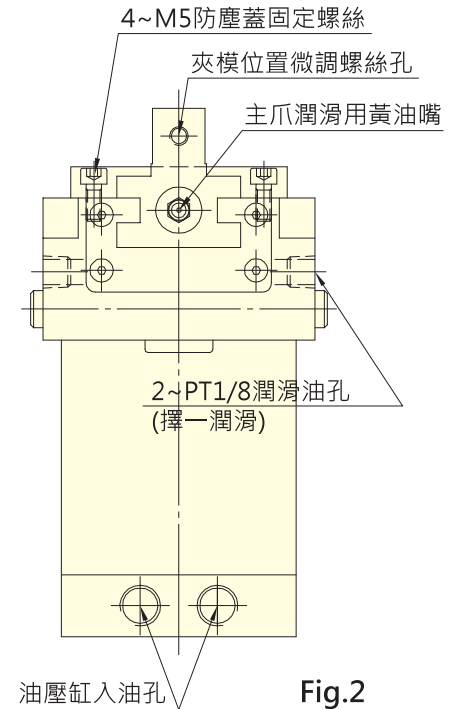
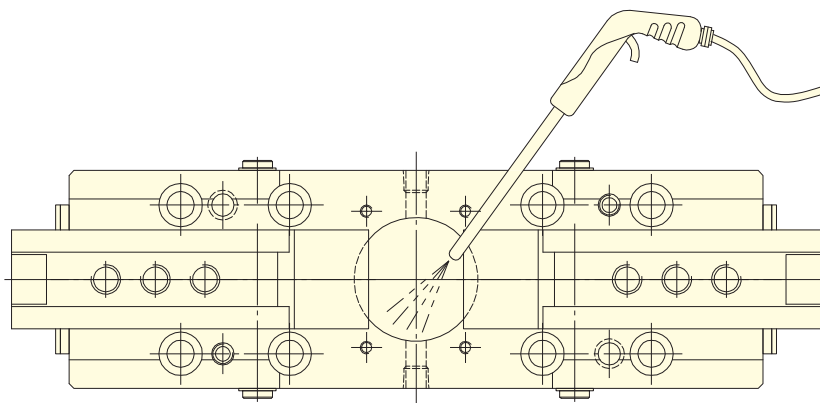

Fig.2
Fig.3
- After machining, clean the chuck body and slideway with air gun, etc. While cleaning, remove the cover set screw, and disassemble cover, and max. position of the master jaw at the same time, it can clean inside bits of the clamp easily. (Fig2, Fig3)